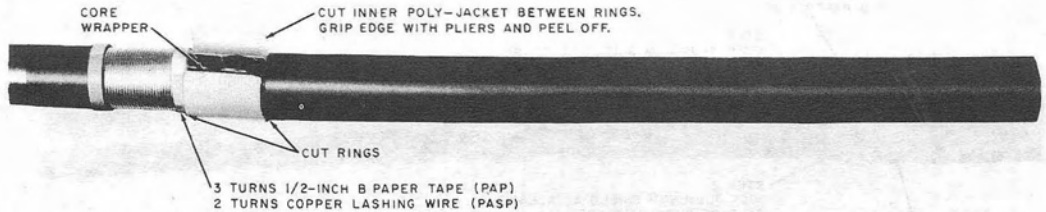

Fig. 6—Cutting and Removing Inner Poly-Jacket
3.03 Cut and remove the inner poly-jacket as shown in Fig. 6. Exercise care not to damage the conductor insulation.